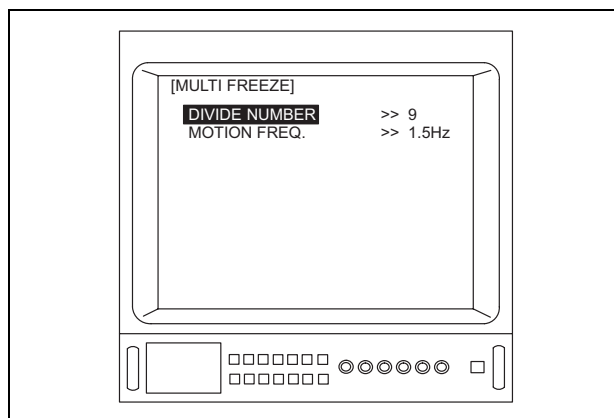

Figure 5.129
7. Depress the menu switch “” or the “Enter” key on the keyboard to adjust the “DIVIDE NUMBER” (see Figure 5.129).